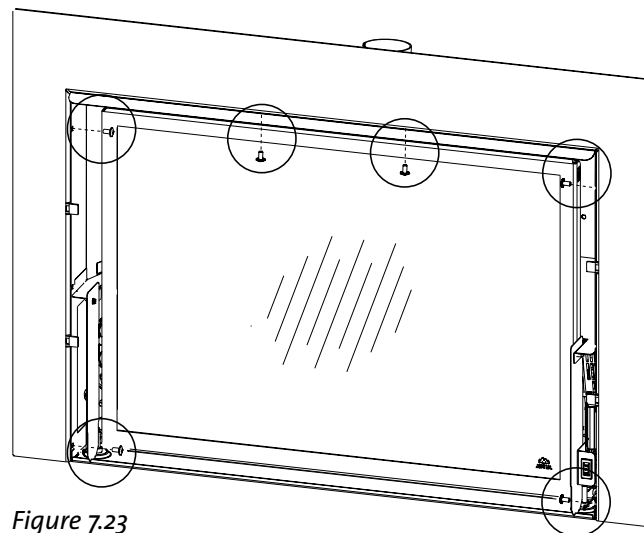

Figure 7.23
1. Loosely attach the Backer Plate to the insert firebox using the ten, M6 x 8 phillip head screws as shown in Fig. 7.23. Tighten the screws in an alternating pattern.